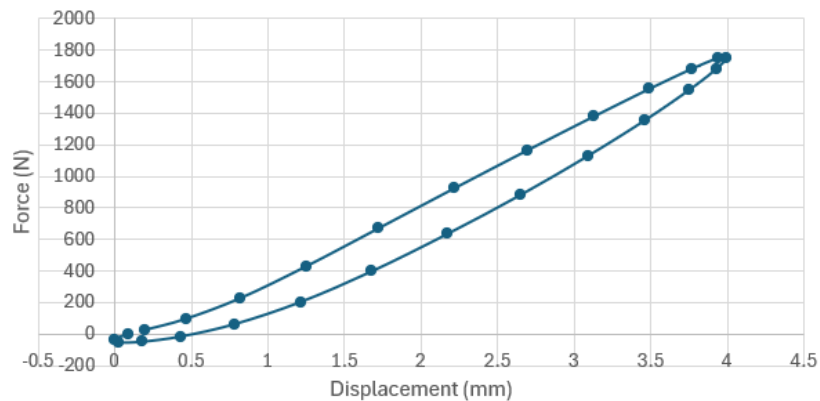

Figure 7: Sample Data That Shows Hysteresis Curve
- If prosthetic deforms more than 4.4 mm will also fulfill failure criteria. This value is based on previous years of experimentation. The Freedom Maverick is the current closest competitor and the goal is to stay within range. Figure 7 shows data collected from 2023-2024
Viscoelastic materials (material that experiences spring and fluid-like reactions to force) tend to load and unload along the different curves, creating a hysteresis curve type curve seen in figure 7.